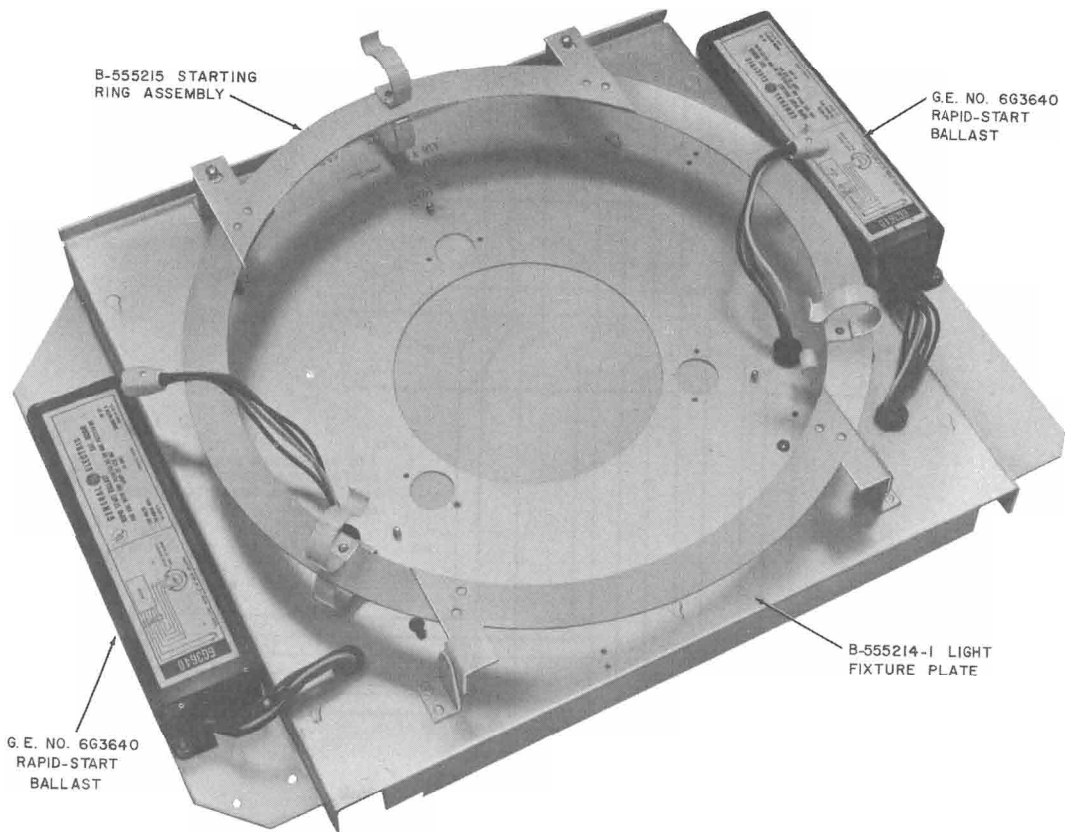

Fig. 6—KS-19207, List 4 Light Fixture
2.04 KS-19207, List 4 Light Fixture (Fig. 6)
Note: List 6 unit is similar to List 4 (Fig. 6) except that the light fixture plates are different for mounting purposes.
Note: List 7 unit is similar to List 4 (Fig. 6) except that List 7 unit is equipped with a B-556772 collar assembly.